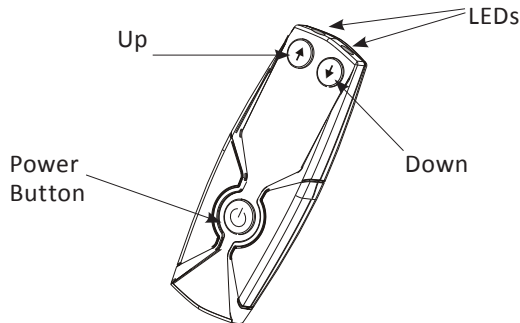

Figure 3-7
See Figure 3-7
2. Pull the loose end of each restraint tight. To release, simply press the release tab and remove the hooks. See Figure 3-7